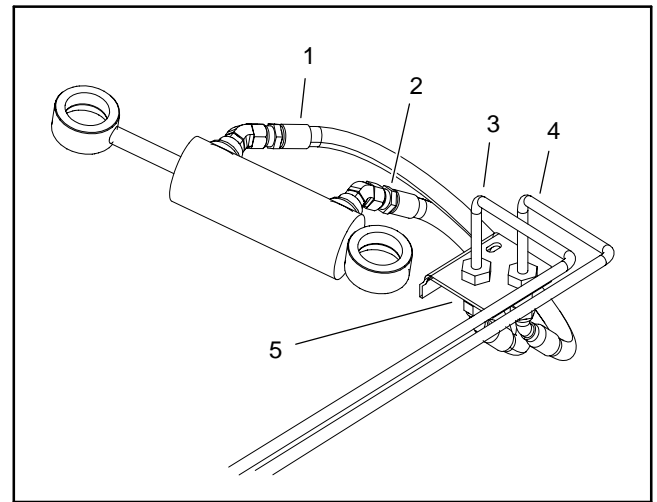

Figure 12
7. Disconnect both steering cylinder hydraulic hoses from hydraulic tubes at rear axle mount bracket (Fig. 12). Remove bulkhead lock nuts that secure steering cylinder hydraulic tubes to bracket. Separate tubes from axle mount bracket.
7. Attach steering cylinder hydraulic tubes to rear axle mount bracket with washers and bulkhead lock nuts (Fig. 12). Install steering cylinder hoses to hydraulic tubes.